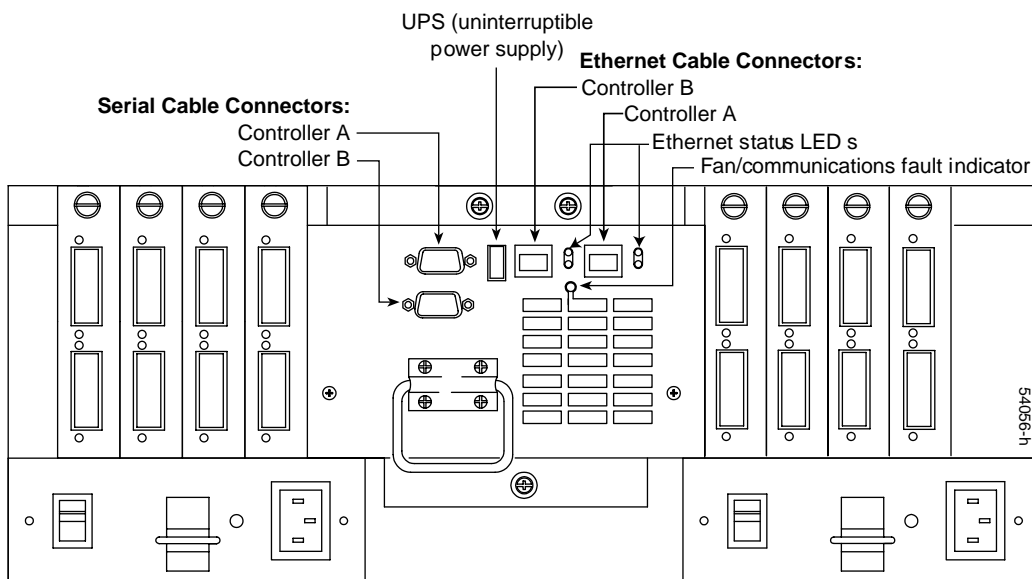

Figure 4-9 Fan/Communications Interface Cables and Fault Indicator
3. Disconnect all interface cables (RS-232 and Ethernet) from the failed fan/communications canister (see Figure 4-9).
6. Check the fan/communications fault indicator (Figure 4-9 on page 62). The amber fault indicator should be off. Troubleshoot the indicator as follows: